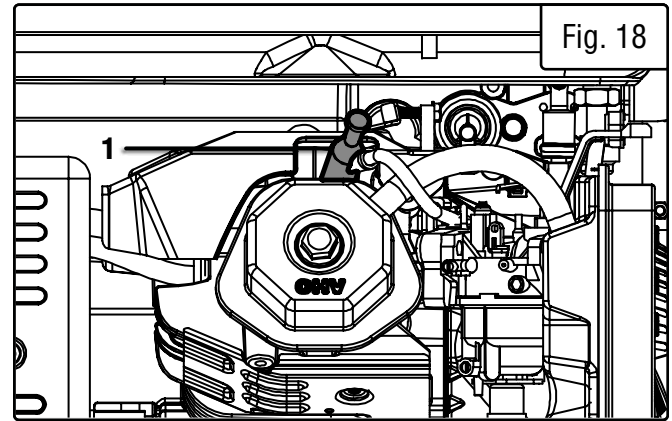

Fig. 18
1. Pull on the spark plug boot to remove it (Fig. 18). Be careful not to tear insulation or wire.